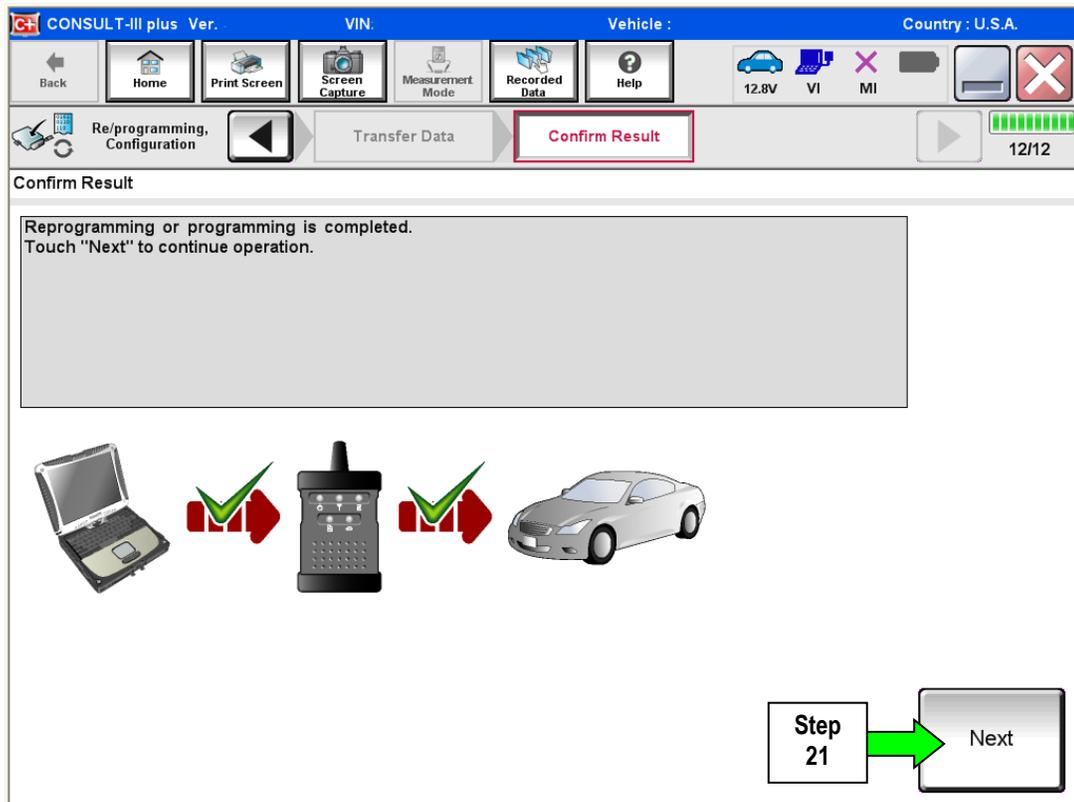

Figure 15
20. When the screen in Figure 15 displays, reprogramming is complete.
NOTE: If the screen in Figure 15 does not display (indicating that reprogramming did not complete), refer to the information on page 13.